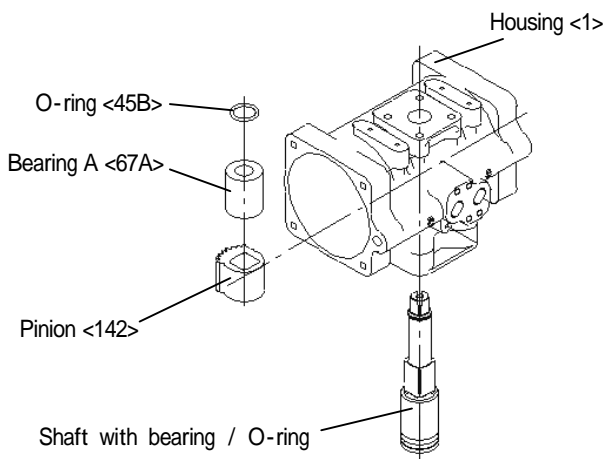
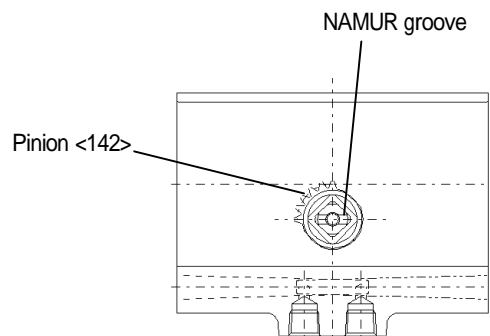

Fig.10
Fig.11
- (3) Lubricate an O-ring, a bearing, a pinion gear and the shaft, and assemble them with the housing (Fig.10). The pinion teeth and the NAMUR groove on top of the shaft must be positioned each other as shown in Fig.11.